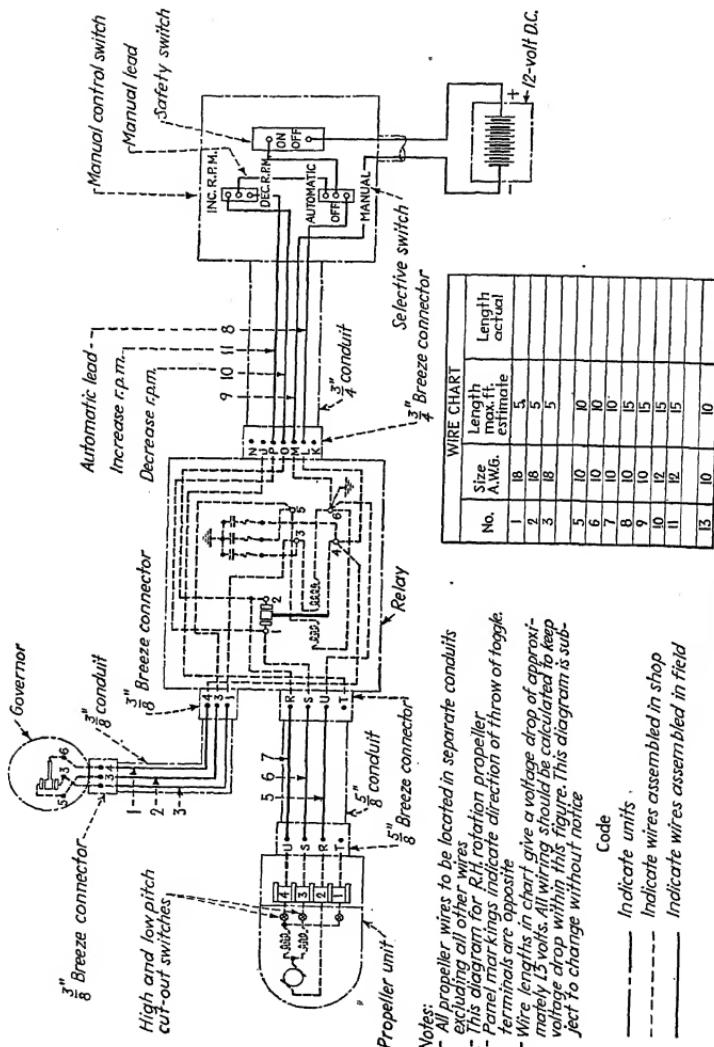

Fig. 63.—Wiring diagram for single-engine propeller.
Wiring diagrams for both single- and twin-engine planes are shown in Figs. 63 and 64. Wire charts showing the size in American wire gage and
**Wiring.**—Diagrams are shown in Figs. 63 and 64. 1. It is recommended that all propeller wiring be carried in separate conduits from the other airplane wiring.